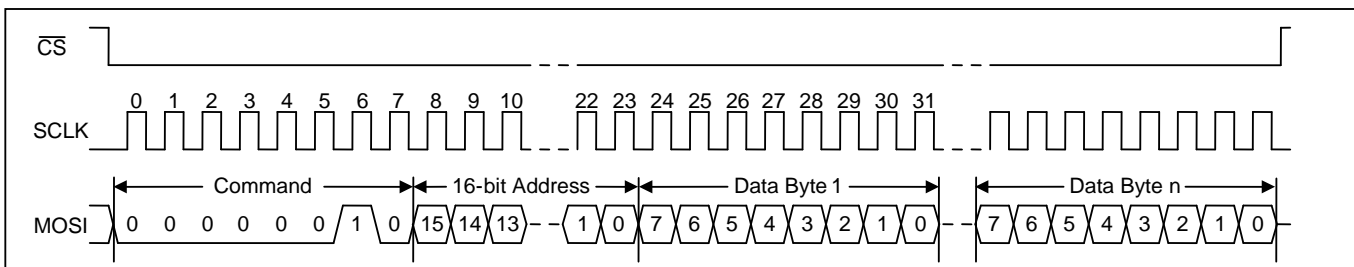

Figure 5 - SPI Write Transaction Functional Timing
**Write Transactions.** After driving CSN low, the bus master transmits the write command followed by the 16-bit register address followed by the first data byte to be written. The device receives the first data byte on MOSI, writes it to the specified register, increments its internal address register, and prepares to receive the next data byte. If the master continues to transmit, the device continues to write the data received and increment its address counter. The write transaction is completed when the bus master drives CSN high. See Figure 5.